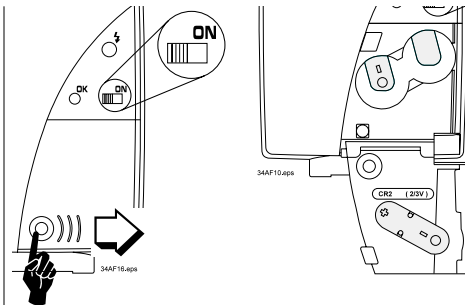

Fig. 1: Unlocking and exchanging batteries
- Press the unlocking catch, slide the battery compartment lid to the right and fold open (see fig. 1).